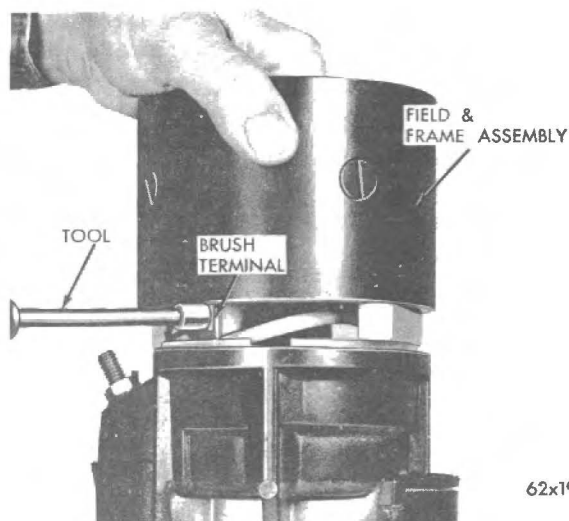

Fig. 4 Removing Brush Terminal Screw
NOTE: The wire of the shunt field coil is soldered to the brush terminal. One set of brushes are connected to this terminal. The other pair of brushes is attached to the series field coils by means of a terminal screw. Carefully pull the frame and field assembly up just enough to expose the terminal screw and the solder connection of the shunt field at the brush terminal. Place two wood blocks between the starter frame and starter gear housing (see Fig. 4) to facilitate removal of the terminal screw and the unsoldering of the shunt field wire at the brush terminal.
(4) Support the brush terminal by placing a finger behind the terminal and remove the terminal screw. (See Fig. 4).